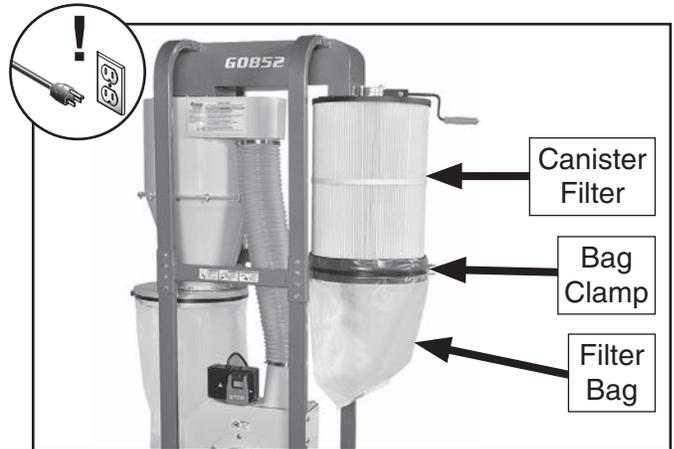

Figure 63. Filter bag components.
2. Release bag clamp, then remove filter bag (see **Figure 63**).